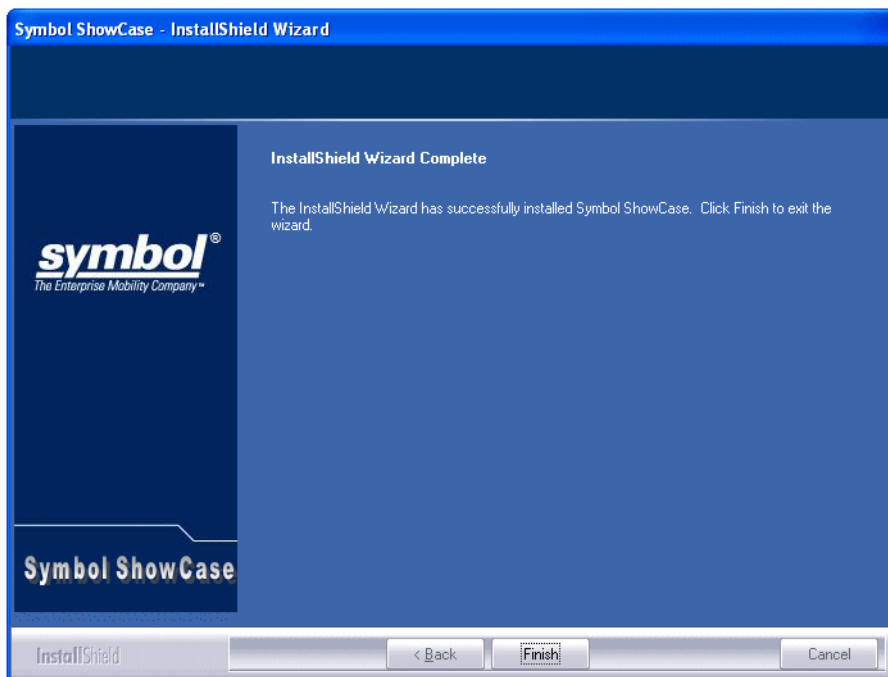

Figure 2-7. Installation Complete Window
6. The *Setup Status* window automatically launches *Installation Complete* window (see Figure 2-7).